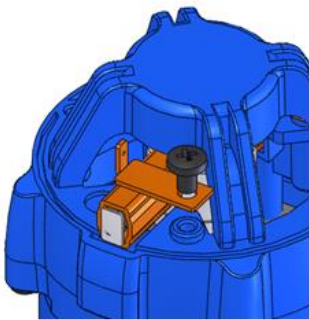

Fig. 21
- Put the carbon brush base (with carbon brush) into the middle housing of motor (Fig. 21).